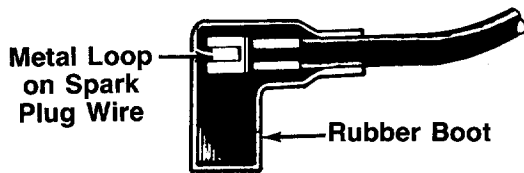

FIGURE 22.
1. Attach spark plug wire to spark plug. Make certain the metal loop on the end of the spark plug wire (inside the rubber boot) is fastened securely over the metal tip on the spark plug. See figure 22.